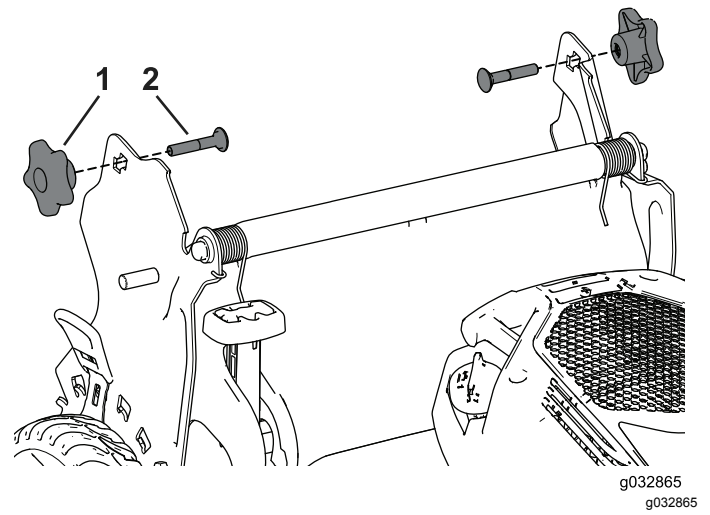

Figure 31
4. Insert the carriage bolt (with the bolt head toward the inside) through the handle bracket and the upper hole in the handle end. Ensure that the square edges of each carriage bolt fits into the upper or lower square hole in its related handle bracket (Figure 31).